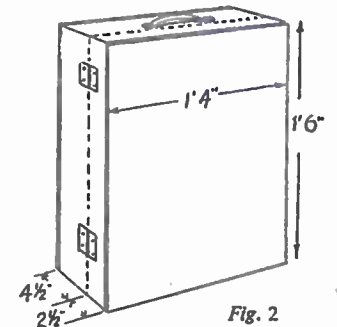

Fig. 2
The rack, as it appears when ready for carrying, is illustrated in Fig. 2. Dimensions are shown on this drawing. Make up a frame of timber to the given dimensions, with tongued and grooved corner joints, as at (F) Fig. 3, well glued together. To this, at back and front the plywood is to be glued and pinned. The frame must be truly square, and to better ensure this, it will be necessary to make certain that the plywood panels for the back and front of the rack are themselves cut square, the nailing in position of them thus checking